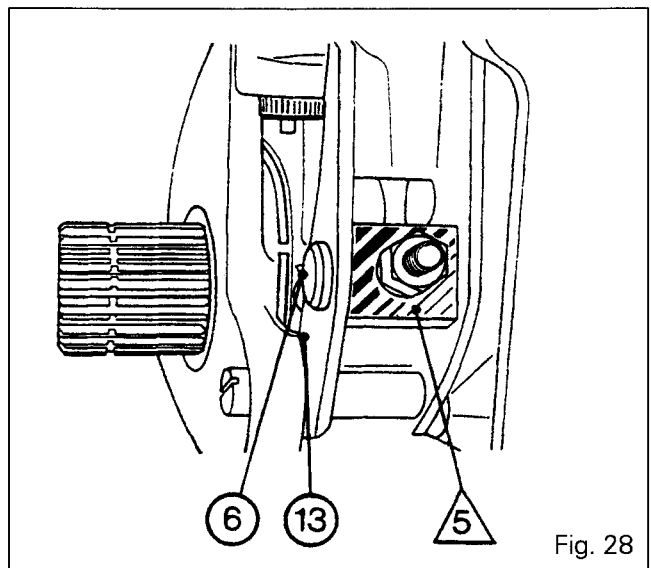

Fig. 28
110. Place the tip of the dial gauge on a tooth of the crownwheel (Fig. 28).
**Note: The plate /5\ is rectangular. It must be positioned horizontally, lengthwise, on the pin(6) in the lever (13) to be correct (Fig. 28).**